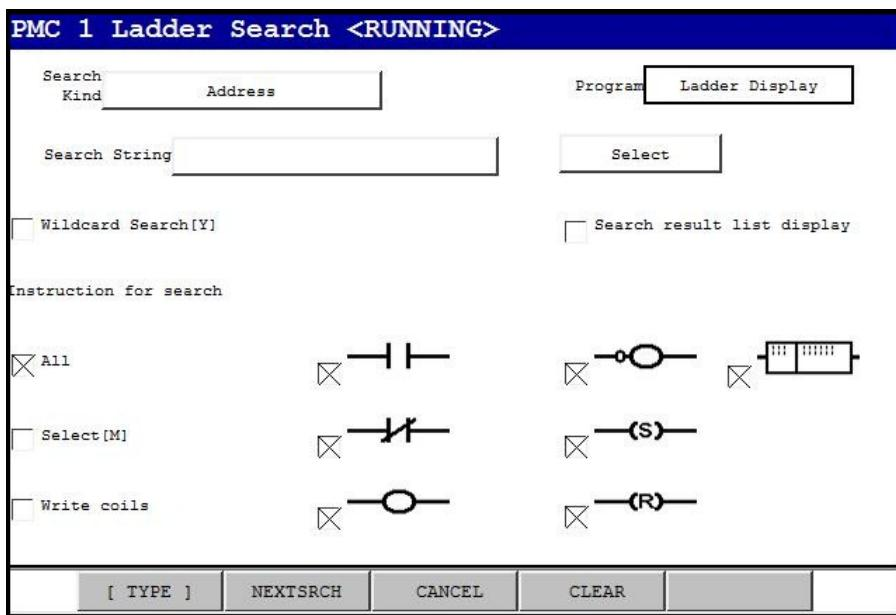

Fig. 6.3 (c) Search screen
- 1 Press F5 [FIND] and a screen such as that shown in Fig. 6.3 (c) appears.